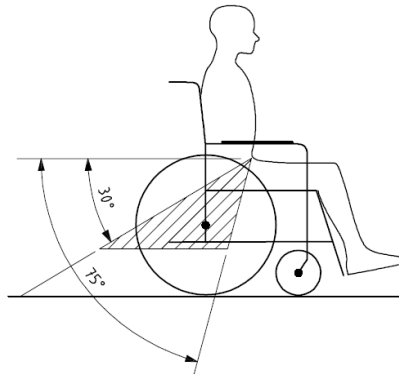

Figure 28
- It is recommended to use the pelvic seat belt along the front of the pelvic area, so that the angle of the belt is between 30° and 75° from the horizontal, as shown in Figure 28; a greater angle, always in the expected range, is preferable.